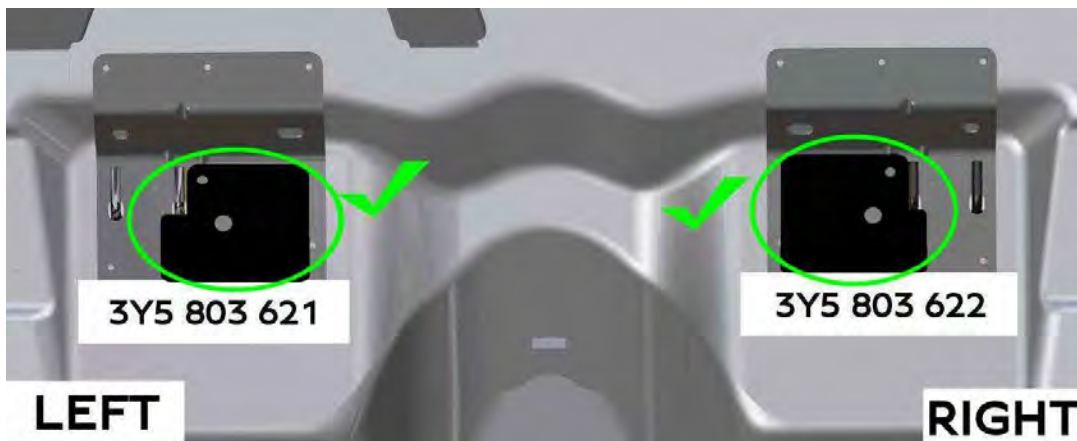

Figure 30
- Referring to Figure 30, Carry out a visual check to confirm the plates are fitted/located correctly before securing the seat frame fixings